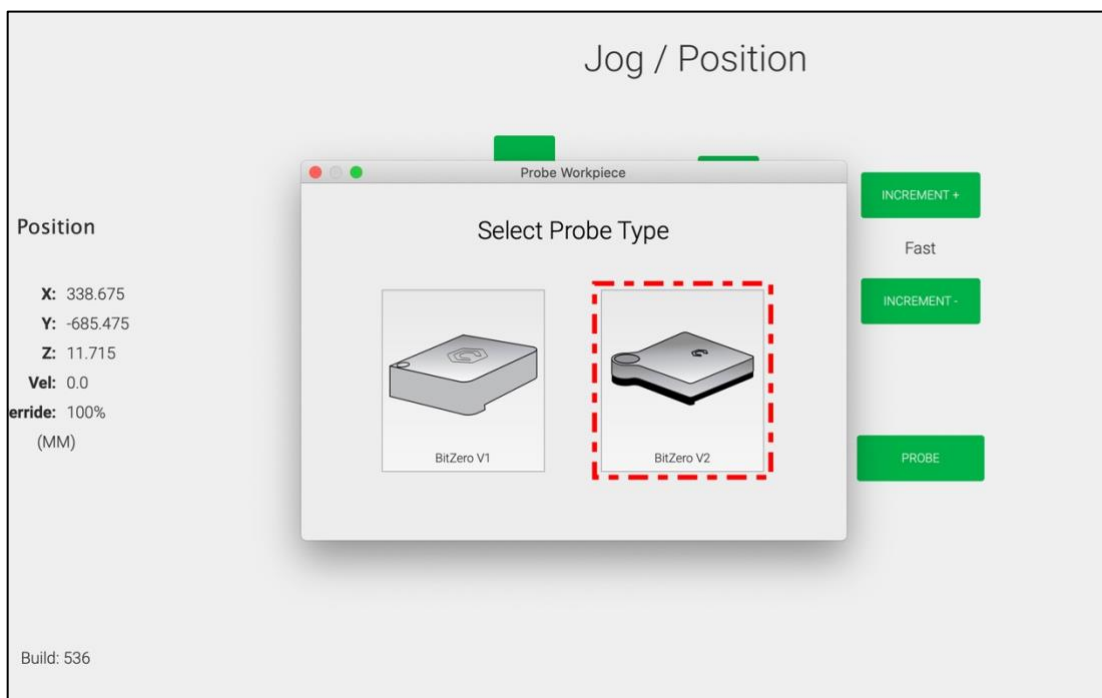

Figure 25
8. Select **BitZero V2** for the probe type. See **Fig. 25**.